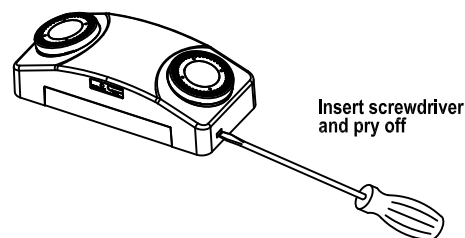

Fig 1
1. Remove front cover by inserting flat blade screwdriver into slots (see Fig 1).